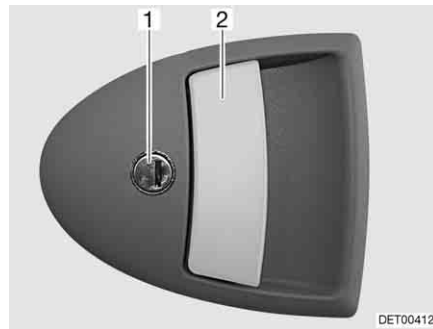

Fig. 39 Door lock of conversion door, outside
- Insert the key into locking cylinder (Fig. 39,1) and turn until the door lock is unlatched.
- Pull on the handle (Fig. 39,2). The door is open.
- Insert the key into locking cylinder (Fig. 39,1) and turn until the door lock is engaged.